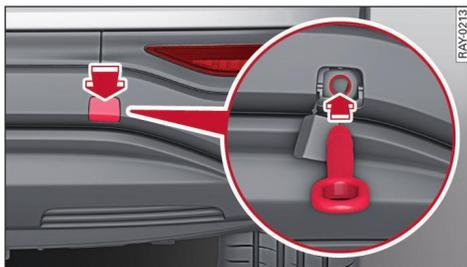

Fig. 141 Rear bumper: Fitting the towline anchorage
- ▶ Firmly press the cap inwards briefly ⇒ *Fig. 141*. The cap will be released from the bumper.